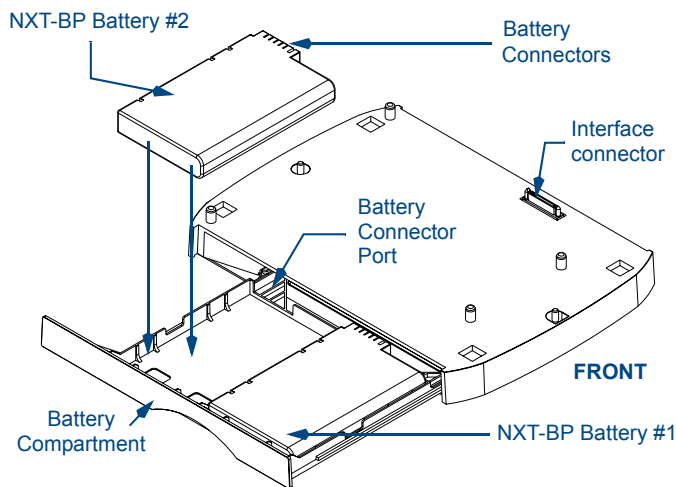

FIG. 6 Battery installation procedure
1. With the panel atop the base, open the battery compartment (FIG. 6) by pulling the handle outwards. This compartment is capable of housing two (2) NXT-BP batteries.
3. Align the battery connectors with their corresponding battery connector ports (located on the battery slot inside the battery compartment) (FIG. 6).
1. Insert the two (2) batteries into the battery compartment shown in FIG. 6.